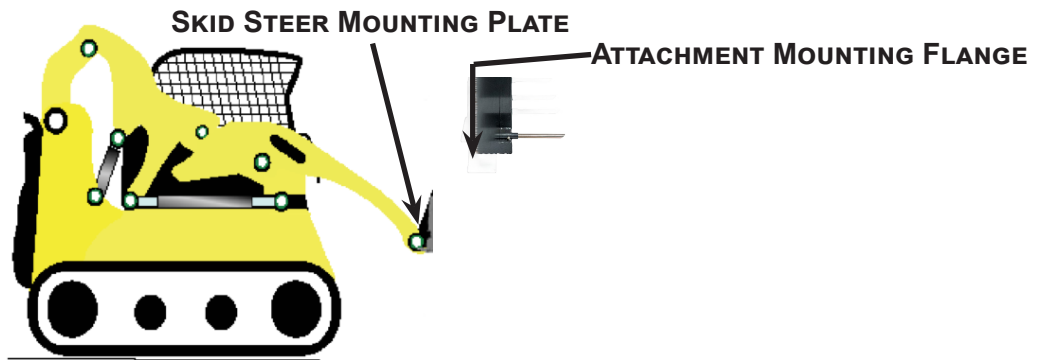

FIGURE 4.2A - SKID STEER MOUNTING PLATE TO ATTACHMENT MOUNTING FLANGE
2. Drive the skid steer to the attachment plate and tilt the skid steer coupler forward and hook the top edge of the skid steer quick attach mechanism under the lip of the hay spear's attachment plate. See figure 4.2a below.
3. Slowly raise and tilt back the skid steer mounting plate, moving upward until the hay spear's attachment plate is flat against the skid steer quick attach mechanism. See figure 4.2a below.